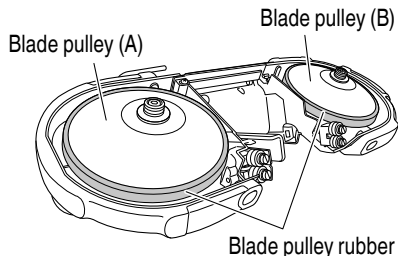

Fig. 24
2. Blade pulley rubbers inspection (Fig. 24)